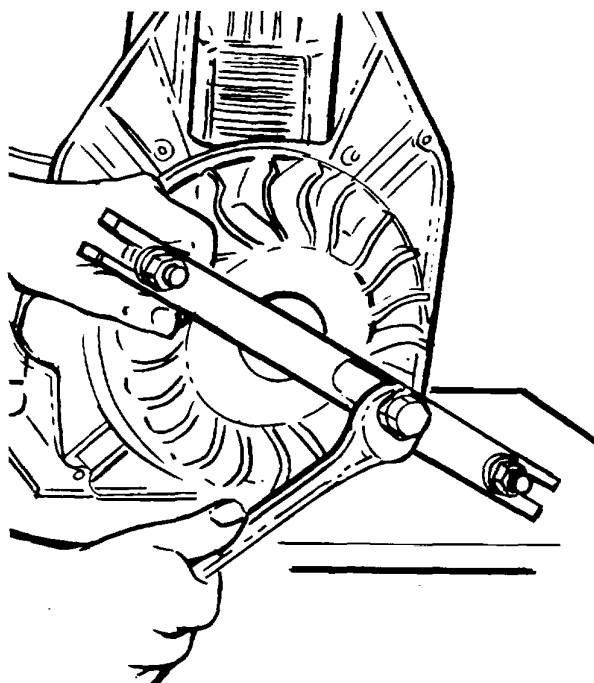

Figure 7-12. Removing Flywheel
6. Remove flywheel using puller, fig. 7-12. Remove key from crankshaft.